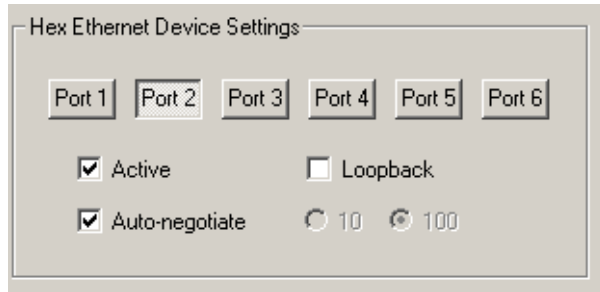

Figure 2-20. Hex Ethernet Device Settings
1. **Click the Port 2 button in the Hex Ethernet Device Settings block of the main Axcelerator Development System window.** See Figure 2-20.